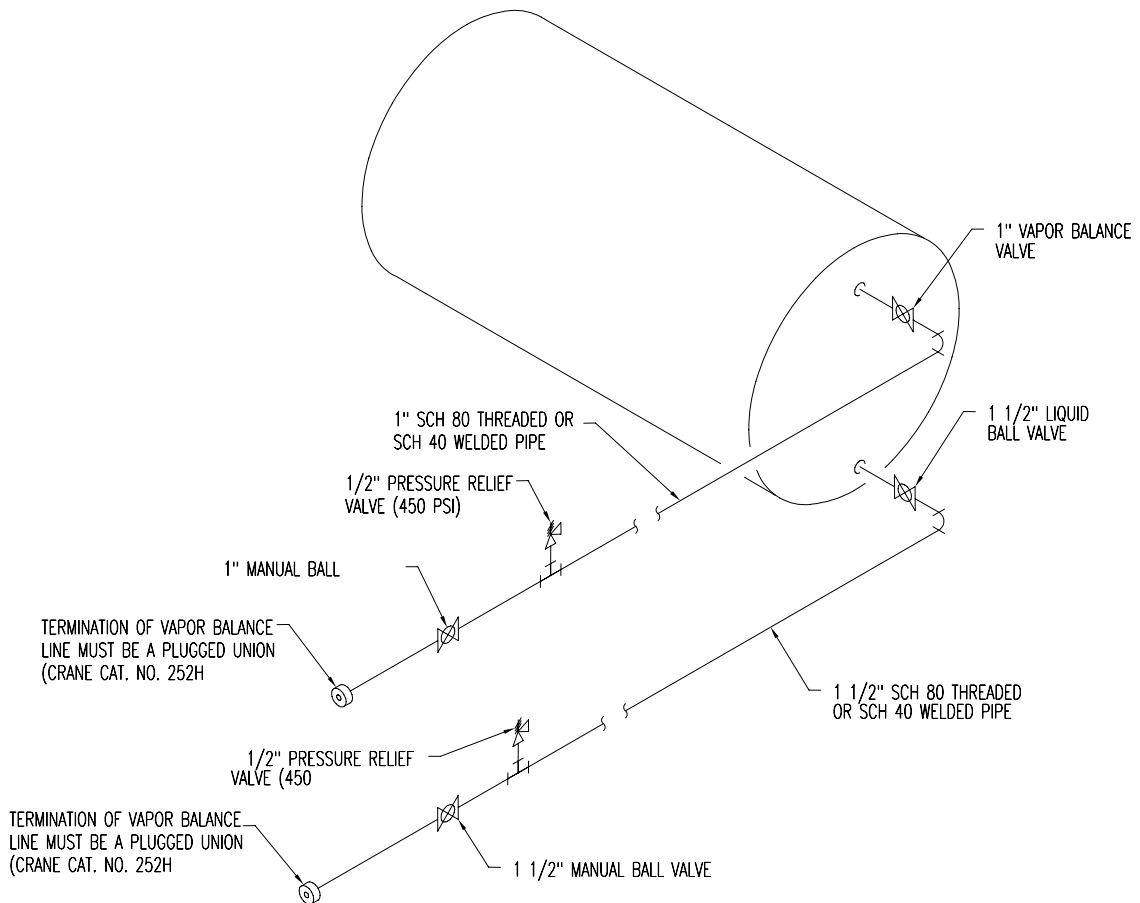

Figure 4-9
- A. Fill and Equalizing lines, figure 4-9, must be terminated in plugged unions (Crane Cat. No. 252H - no exceptions). These termination points must be a minimum of 8" apart, centerline to centerline, 3' 6" (1 m) above grade or floor and securely anchored. The male side of the unions must be connected to the pipe. Since the unions are furnished on the storage unit fill and equalizing lines, they can be removed and used at the termination points of the extended fill and equalizing lines. 300 pound malleable iron, galvanized unions can then be substituted at the storage unit.